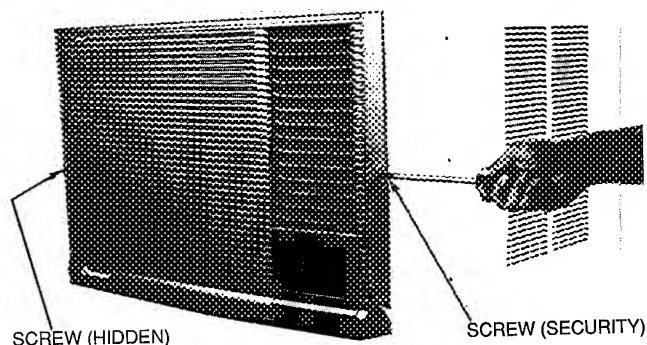

Fig. 2 — Removing 2 Screws from Front Grille
1. Remove 2 screws located on either side of front grille. See Fig. 2.